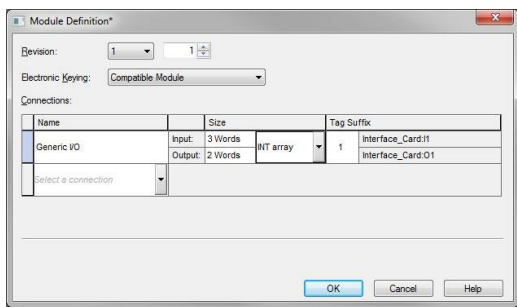

Figure 27: AOP Generic I/O Module Definition
- 3) Configure the Generic I/O connection. Refer to Figure 27.